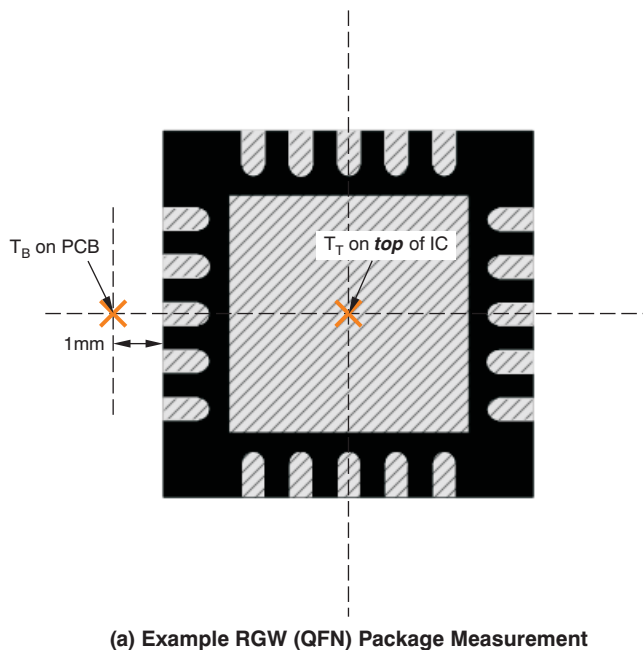

Figure 43. Measuring Points For T_T And T_B
T_B is the PCB temperature measured 1mm away from the IC package on the PCB surface (see Figure 43). (3)